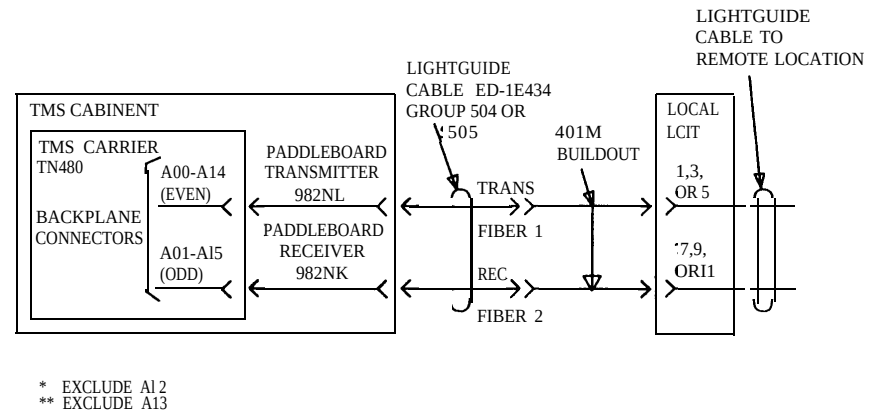

Figure 26-5. Central TMS Fiber-Link Connections for Unduplicated MC (Phase 3)
4. Connect the fiber-optic cables as shown in figures 26-5 and 26-6.